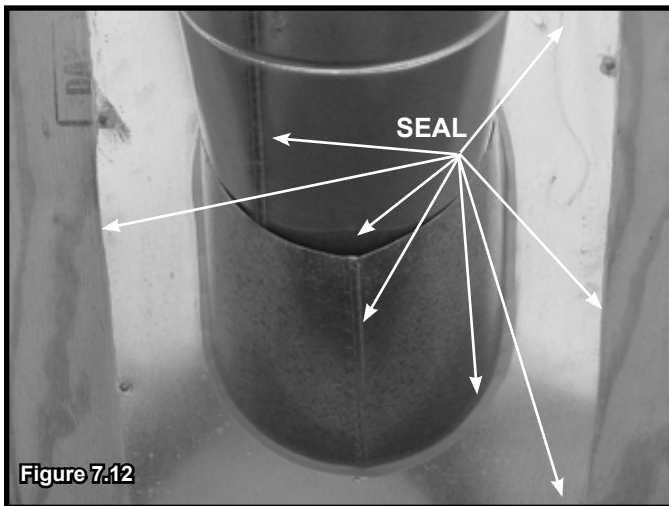

Figure 7.12
- Slide the roof flashing over the pipe sections extending through the roof as shown in Figure 7.12.
- Seal the perimeter of the flashing where it contacts the roof surface. See Figure 7.12.